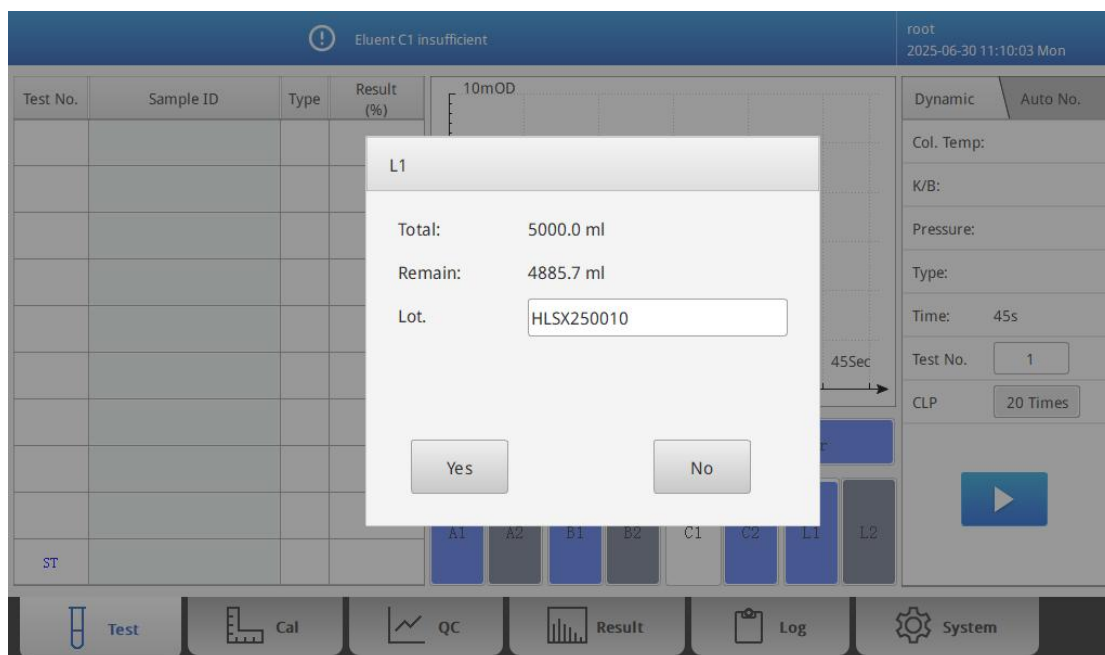

Fig. 5-13 After Clicking “Replace” Button
2) Click **“Replace”** button. The **Fig. 5-13** will be displayed.